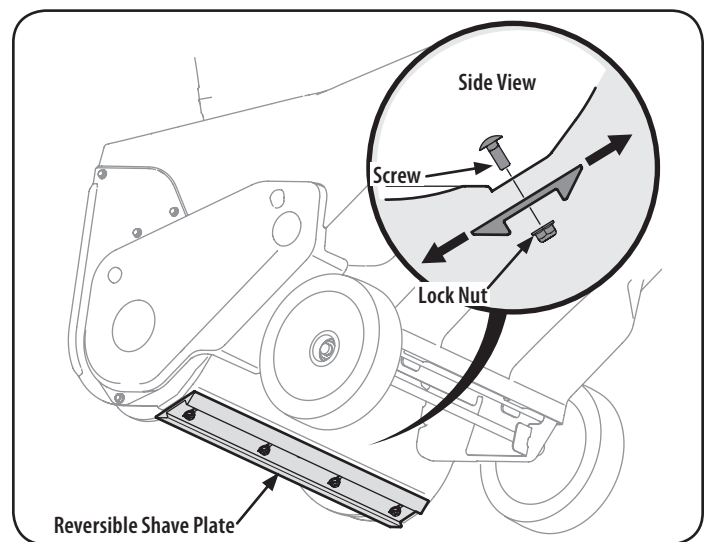

Figure 1
3. Loosen the four flange lock nuts and carriage screws which secure the shave plate to the housing. See Figure 1. Move the shave plate to the appropriate position and retighten the nuts and screws securely.
3. Remove the four carriage bolts and flange lock nuts which attach it to the snow thrower housing. Refer to Figure 1 on page 12.